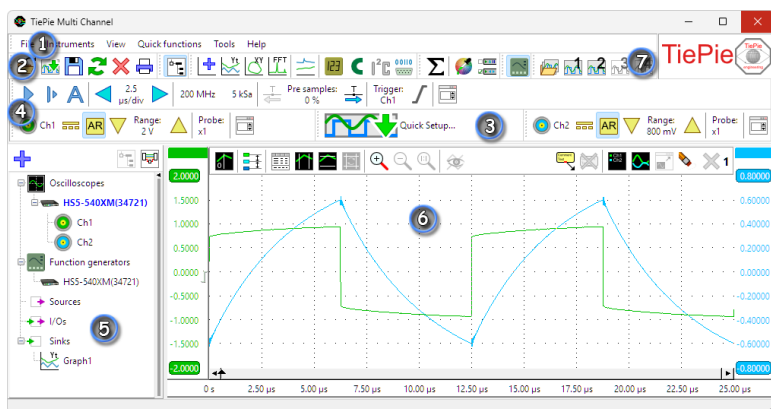

Figure 2.1: Main window
When you start the Multi Channel software it will look like figure 2.1. This section will explain the function of the different parts of the main window.
**5 Object screen** The Object screen is situated at the left side of the main window of the application. In figure 2.1 it is opened, but it can also be closed to maximize the available space for graphs. It can be revealed and hidden by clicking the  **Show Object screen** button on the main toolbar or by clicking the ◀ or ▶ at the upper right corner of the Object screen.